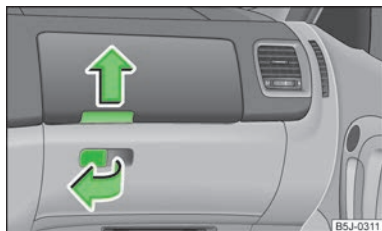

Fig. 65
- Pull the handle of the flap in the direction of the arrow » Fig. 65 and fold down the flap.